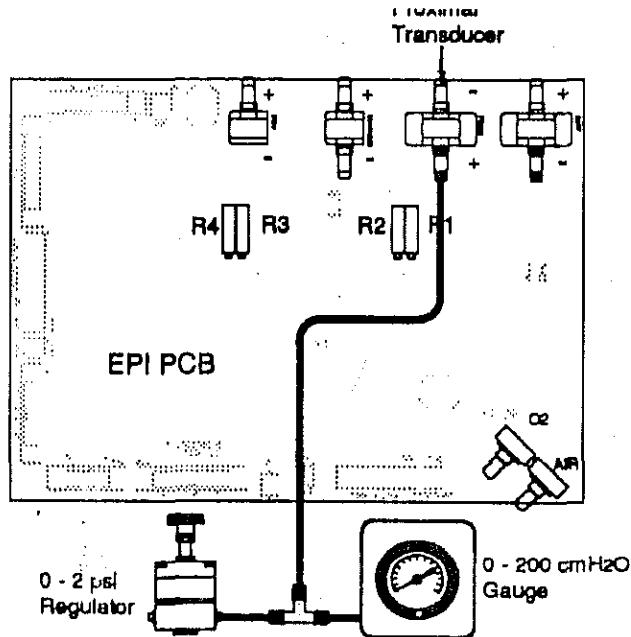

Figure 5-2
7. Connect the Proximal Transducer as shown in Figure 5-2 and apply 95 ± 5 cmH₂O pressure.
11. Connect the Proximal Transducer as shown in Figure 5-2 except to the opposite port (negative) and apply $40 \pm .5$ cmH₂O pressure.